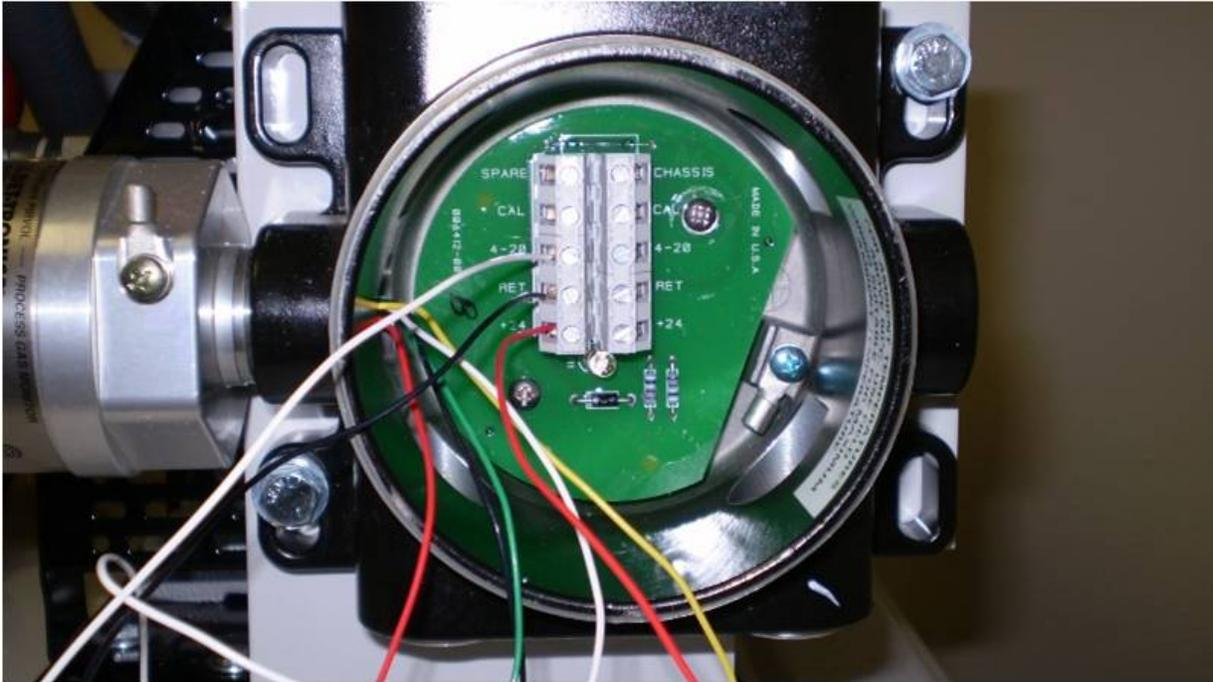

Figure 50: HC IR Sensor Electrical Housing Circuit Board
- See Figures 50 and 51: Page 15-88.
- See Figures 50 and 51: Pages 15-X and 15-Y.
6. Re-install the (2) ¼" 45° flare tubing on the top and bottom sides of the HC IR sensor module.